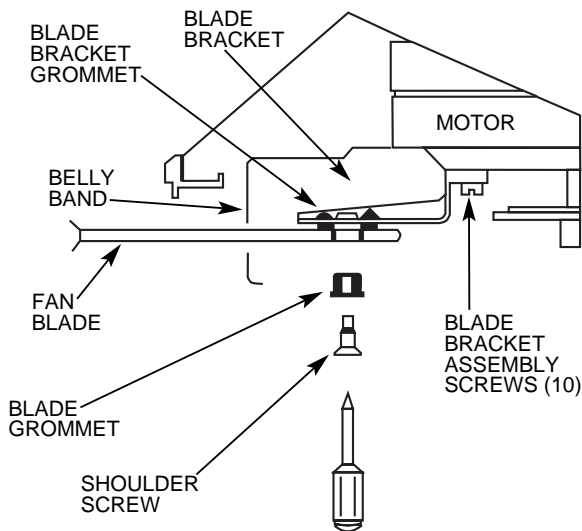

FIGURE 7. Installing Fan Blades
A. Slide wood blade through slot in belly band and line up the (2) holes in the blade with the rubber grommets in the blade bracket. Insert rubber grommets into the (2) holes in the blade and assemble the blade to the blade bracket using the shoulder screws provided in sack parts. When properly assembled, the end of the blade grommets will fit inside the bracket grommet. Snug the shoulder screws to prevent vibration and wobble when the fan is operating. See Figure 7.
NOTE: After installing all the blades, check the (10) blade bracket assembly screws which attach the brackets to the motor. Make certain they are tight. See Figure 7.